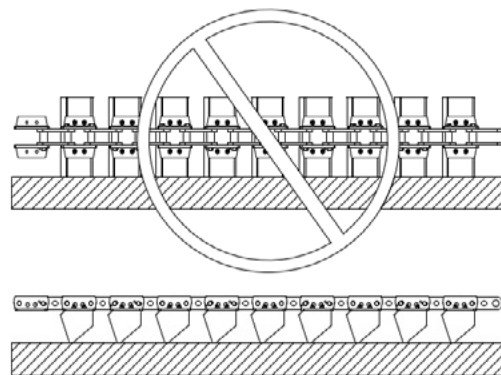

Figure 4. Pre-assembling Chain and Bucket Assemblies
2. Assemble the chain and buckets with the bucket's lip facing down and the chain placed on top of the buckets as shown in Figure 4. Never assemble the chain and buckets with the buckets laying on their side or with the chain on the ground and the buckets placed on top.